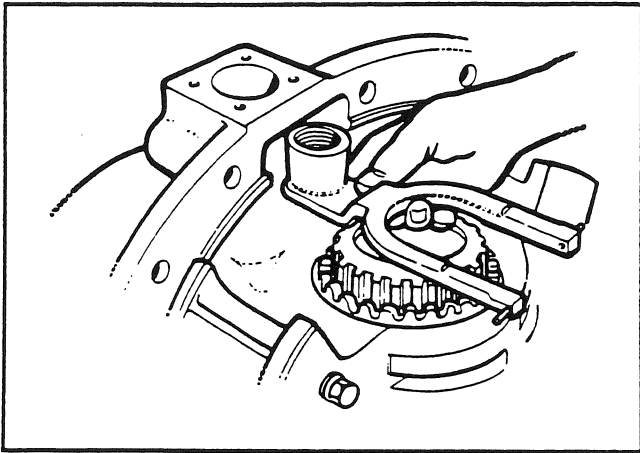

Fig. 89
1. Apply threadlocking compound P/N 40945 to the threads of the shifter shaft. Install the fork into its correct position in the carrier case (see Fig. 89).